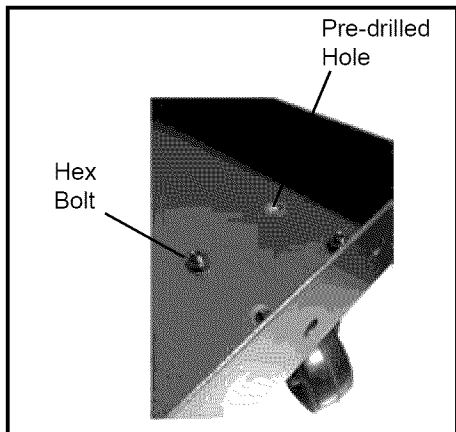

Fig 3.
5. Locate the 4 pre-drilled holes at the left front of the bottom panel (Fig 3). Slide a hex bolt through one pre-drilled hole and then into the matching pre-drilled hole in the flange of one of the casters. Then secure with a hex nut. Repeat for the other 3 mounting holes.